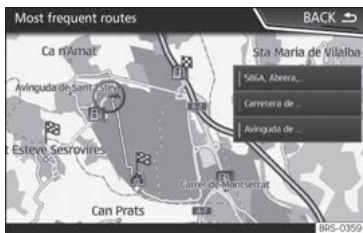

Fig. 237 Predictive navigation
- On the main screen of the Navigation menu, in the pop-up window, press the **Frequent routes** button. To display frequently followed routes press the **Show on map** button » **Fig. 237**.